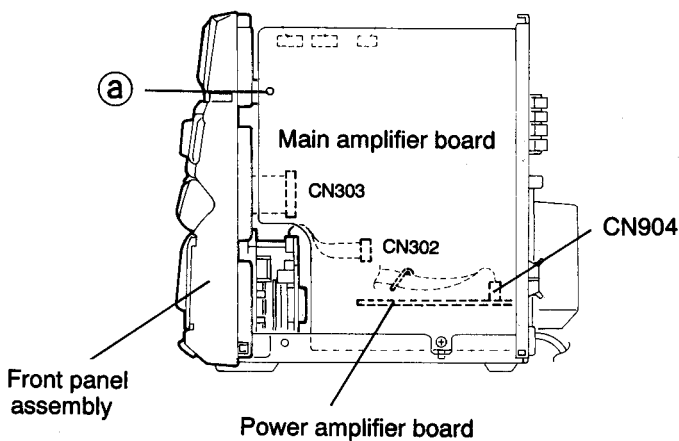

Fig.5-8
5. Disconnect the card wires connected to the front panel assembly from connectors CN302 and CN303 on the main amplifier board. (See Fig. 5-8)
6. Remove the wire clamp holding the parallel wires protruding from the front panel assembly and the parallel wires protruding from the power supply board. (See Figs. 5-8, 5-9)
7. Disconnect connector CN904 on the power amplifier board and then disconnect the parallel wires protruding from the front panel assembly. (See Figs. 5-8, 5-9)